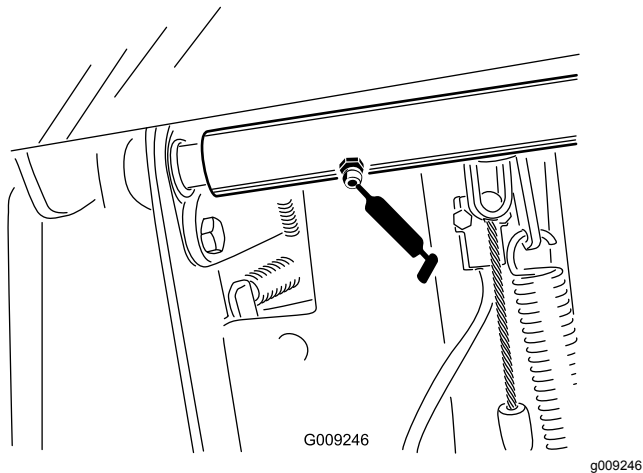

Figure 58
- Brake pedal pivot shaft bearings (2) (Figure 58)